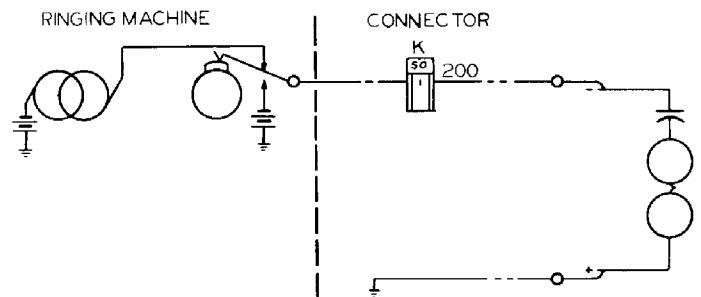
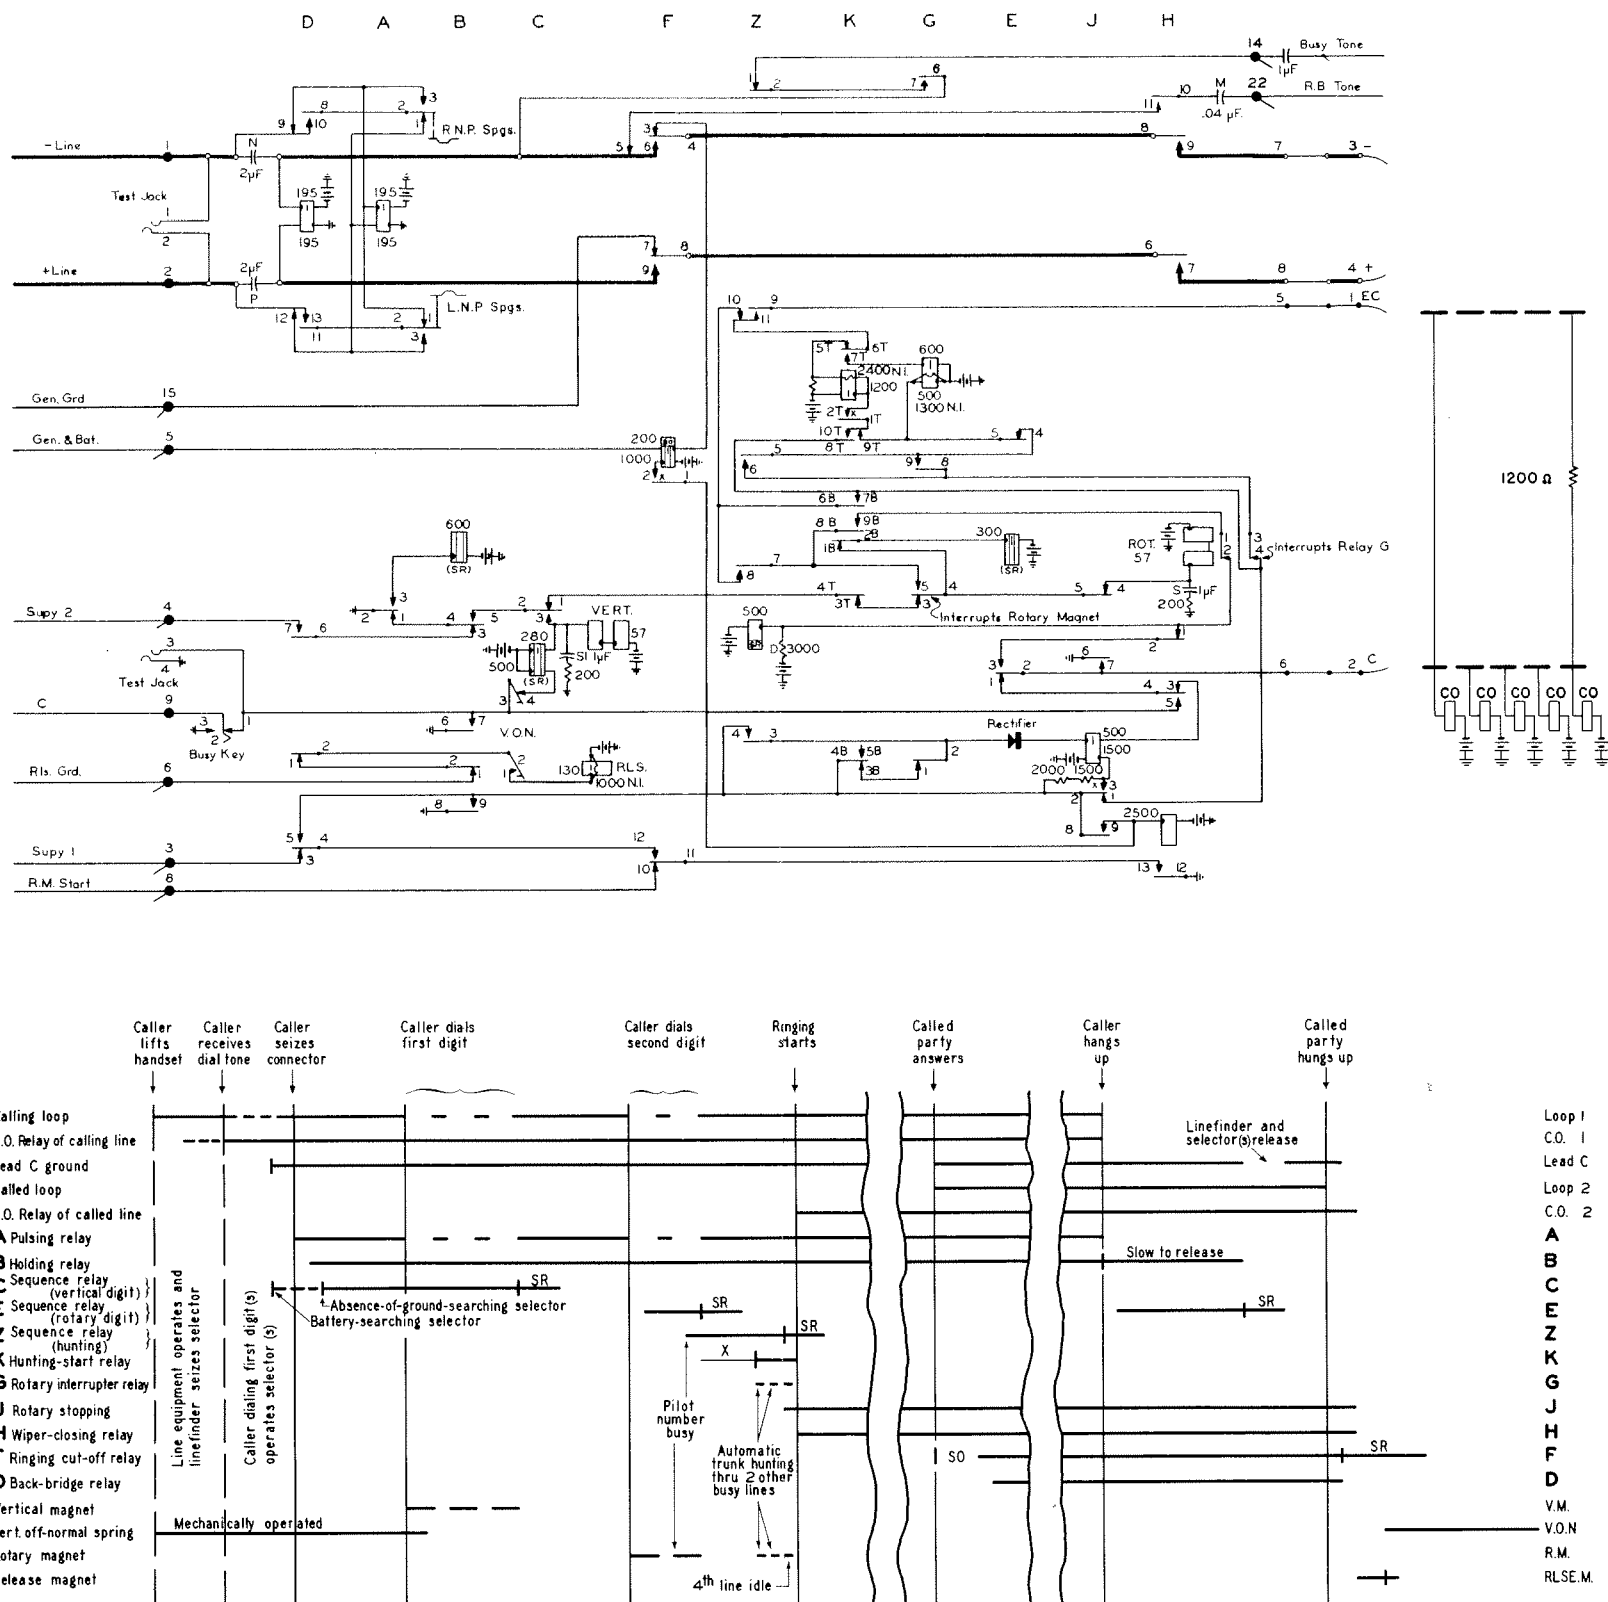

Figure 18. Battery-connected generator
Figure 20. Complete circuit of typical trunk-hunting connector for night-line service, with relay sequence chart.
relay E releases, operates relay G, connects to relay K winding #1 a direct ground which lets relay K operate completely and lock, and (figure 20) connects relay J to wiper C. Altho figure 10 shows relay E opening the circuit of relay Z, relay Z is slow to release, and operation of relay K (figure 11) keeps relay Z operated.
*Relay J was already partially magnetized (to insure fast operation on arrival at idle line) when relay B first operated, and relay B contacts 8-9 (figure 20) closed a circuit thru the 3500Ω of resistors B and A to "pre-energize" relay J winding #2.
A rectifier in series with relay J winding #1 (figure 11) prevents operation of relay J if wiper C passes over a busy message-rate line with a meter being operated by booster battery (see Linefinder bulletin 821 -- page 14 §4.41 and figure 18, if you have the May 1955 edition).
4.7 Ringing called party. When relay J operates (§4.3 or §4.5), it operates its wiper-closing slave, relay H, which grounds lead R.M.St. to start the ringing machine (figure 20), and (figure 18) connects the Gen. & Bat. lead (thru relay F) to the -line and the Gen. Grd. return lead to the +line.
A capacitor in series with the called party's ringer (figure 18) if an individual line, or a capacitor in series with the P.B.X. trunk-circuit ring-up relay prevents battery direct current from flowing thru relay F, and relay F, being slow to operate, cannot be operated by brief spurts of half-cycles of alternating ringing current.
If the P.B.X. called is one to which the telephone company connects the caller free of charge, such as the telephone-company business office, the police or fire department, etc., all 10 lines on that connector level will have been reserved for free service. If the switch shaft was dialed to that level (§4.21), normal-post springs (figure 13) will have operated, and operation now of relay D (figure 20) will not reverse polarity of the transmitter current supplied the caller.
Figure 18 illustrates the battery-connected method. With this arrangement a high-resistance ground might cause the ring cut-off relay to operate, but, since this method is used with cabled lines common in urban areas, such a condition is not likely to exist. Note that the resistor is eliminated, the generator is connected in series with the battery and the ringing cut-off relay between ground and one side of the line, and the other side of the line is grounded. Ringing cut-off relay inductance helps filter higher frequency harmonics and other ringing-machine electrical disturbances so they tend to be kept out of the cable. This helps keep the cable quiet.